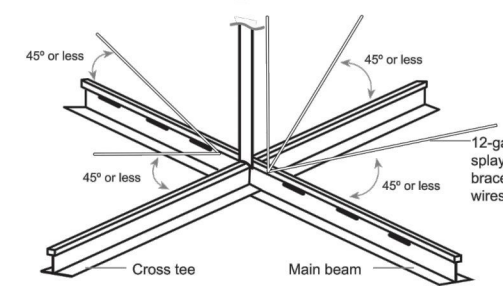

Figure 3
- The vertical strut may be EMT conduit, metal studs or a proprietary compression post (see Figure 3).